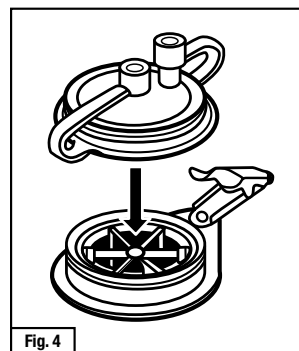

Fig. 4
6. **3500/3510:** Snap elution cap (with plugs) onto main monitor body (Fig. 4). Be sure the two port plugs are secured. Record final sampling time on the back of monitor. Monitor is now ready for shipment.